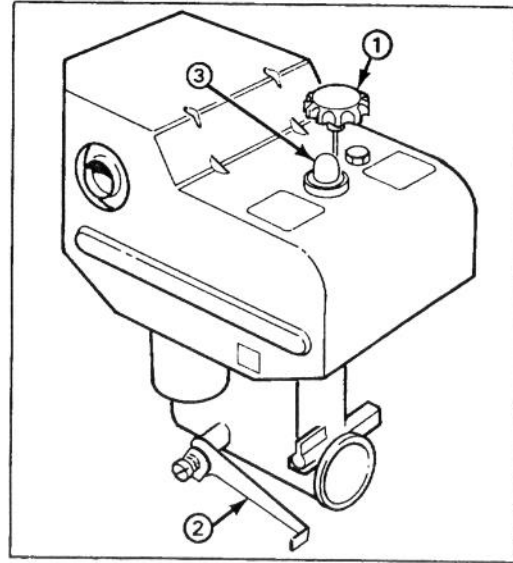

Figure 10
Throttle (Fig. 10) — Moving the throttle upward increases the engine speed.
Choke (Fig. 10) — Choke is located on left side of engine. Push choke down to FULL choke position to start a cold engine. As engine warms up, move choke gradually to OFF.
Primer (Fig. 10) — Press primer to pump small amount of gasoline into engine for improved cold weather starting.
3. Move choke to full choke position (Fig. 10).
5. Depress primer (Fig. 10) five times.
8. After engine starts, immediately move choke (Fig. 10) to 3/4 position. As engine warms up, move choke to 1/2 position; then to OFF position. If engine falters, return choke to 1/2 position. When engine warms sufficiently, move choke to OFF position.